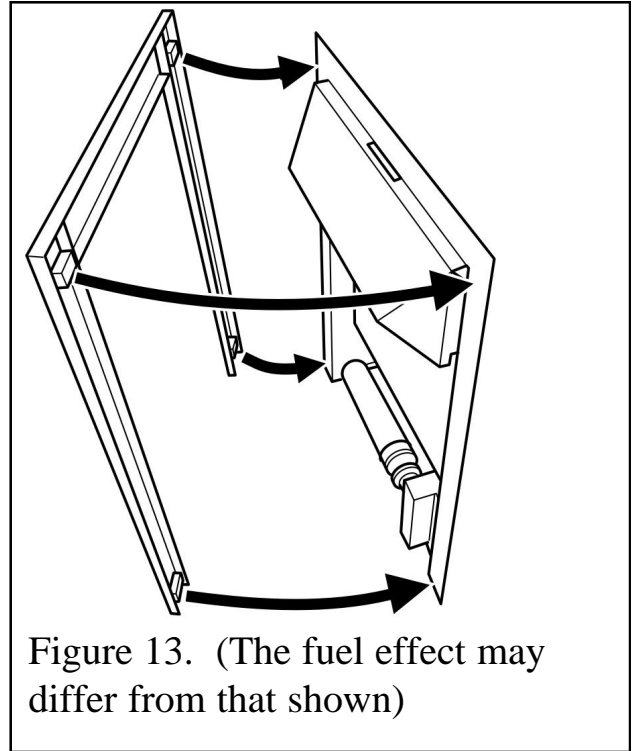

Figure 13. (The fuel effect may differ from that shown)
4. Lift the trims at the top outer edges. This will keep the trims together. Locate the trims to the heater as in figure 13.